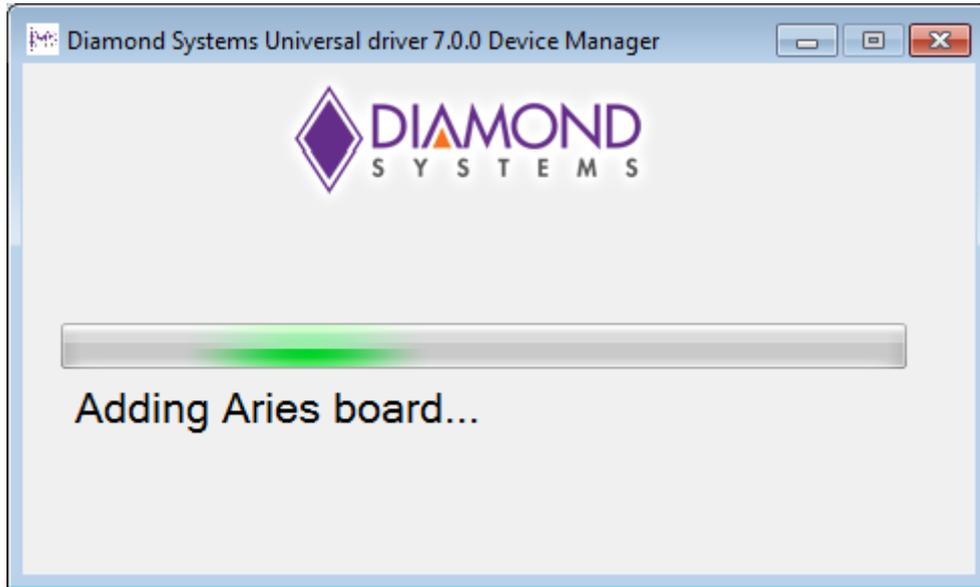

Figure 33: Adding Aries SBC
- Clicking on “Install” will lead to the screen shown in Figure 33.